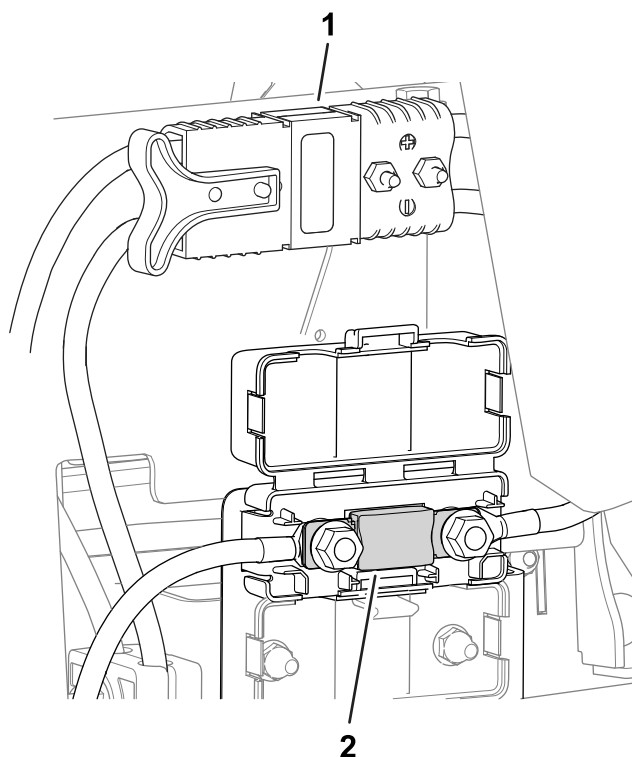

**Figure 53**
- The fuse for the left wheel motor (60 A) is located under the cover on the left side of the machine, near the reel-drive-circuit fuses (Figure 53).